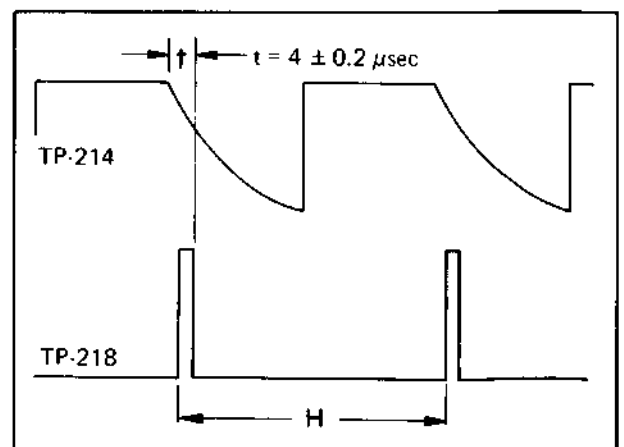

Fig. 5-26 AFC adjustment
4. Adjust R311 (AFC) so that width of "t" is $4 \mu\text{s}$ as shown in Fig. 5-26.